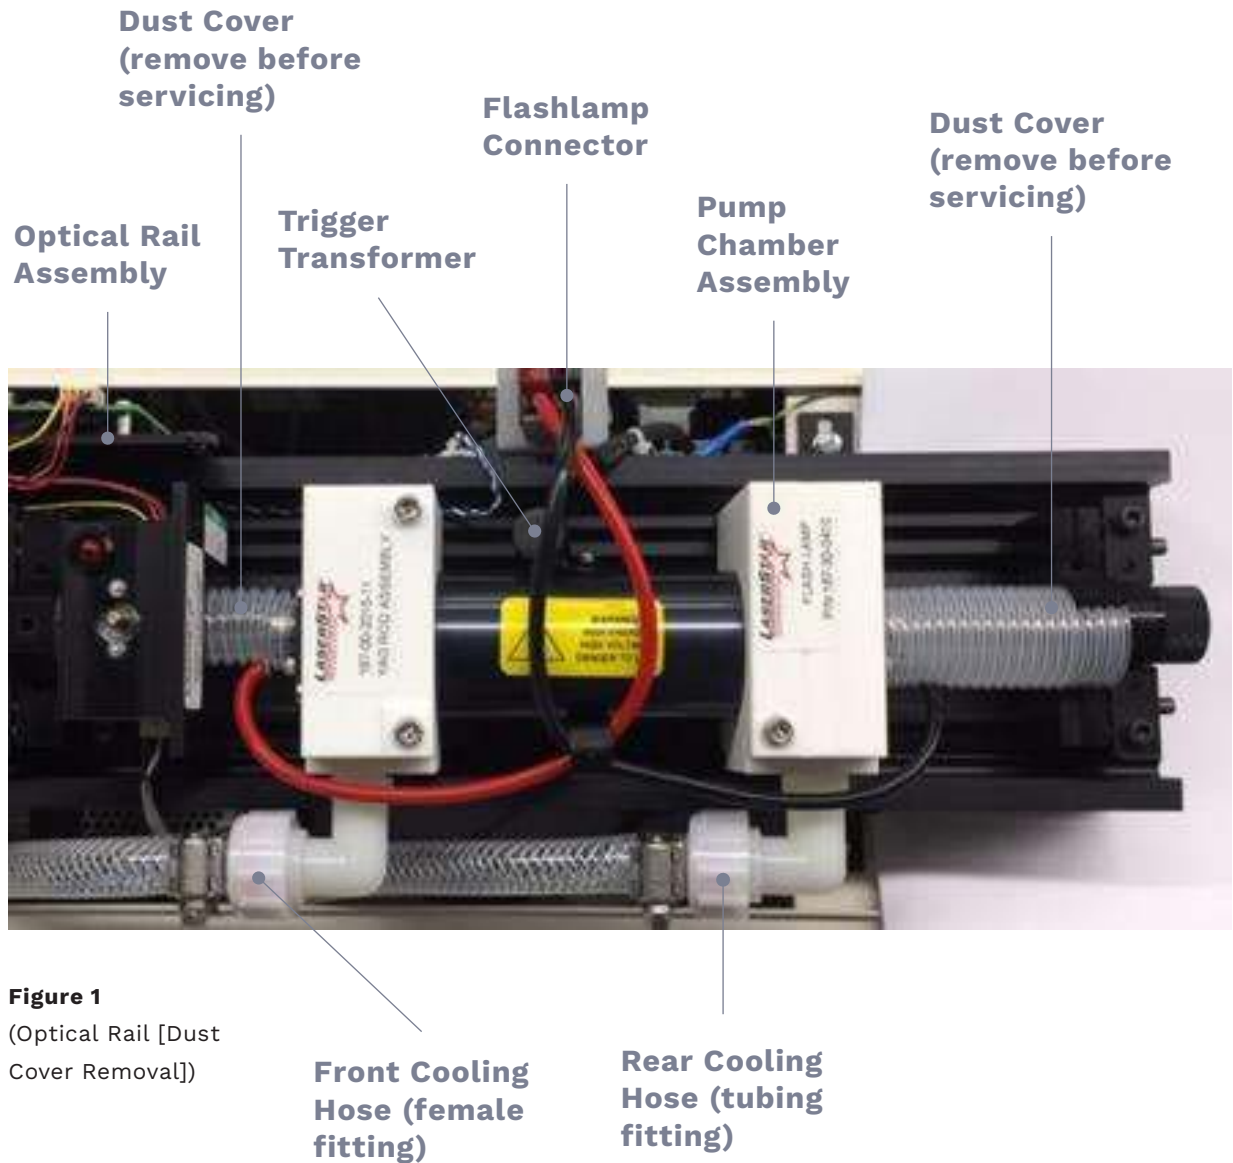

Figure 1
5. Use a siphoning device, hand pump or squeeze pump to remove the water from the bottle through the filling hole. **(figure 1)**
2. Wait five (5) minutes. (This allows the flashlamp power supply to fully discharge.)
3. Remove machine top cover by removing the screws located on the rear of the cover as shown in (Figure 1). Carefully slide the cover back and remove the ground wire/green with a yellow stripe.
7. Remove the dust protectors from the optical rail assembly **(figure 1)**.